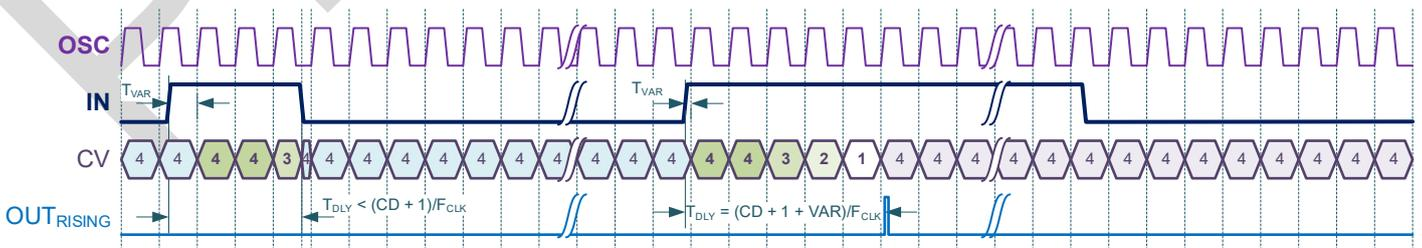
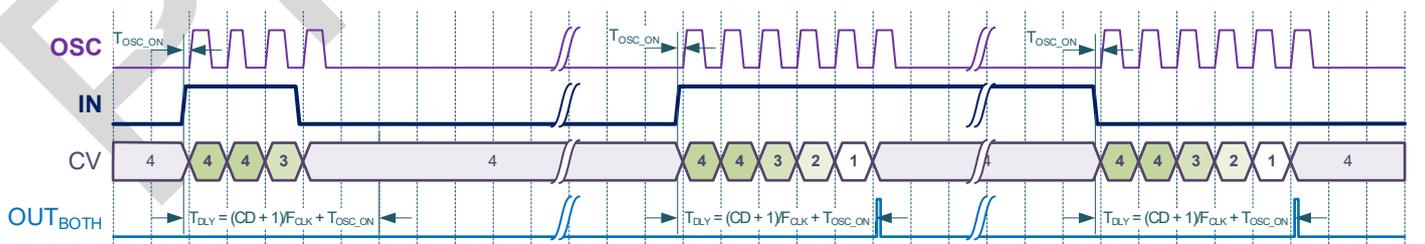

Figure 9.25. Delay Edge Detector Mode Timing Diagram (Rising Edge, Forced OSC)
Figure 9.30. Delay Edge Detector Mode Timing Diagram (Both Edge, Auto OSC)
In the Delayed Edge Detector mode the TMR generates delayed short high level pulse (for non-inverted polarity) when detecting the respective selected edge event (rising edge, falling edge, both edges). The delay time is determined by the Control Data, input clock signal and selected divider value. The timing diagrams of this mode is shown in the Figure 9.25...Figure 9.30.
- Delayed Edge Detector (Figure 9.25...Figure 9.30)